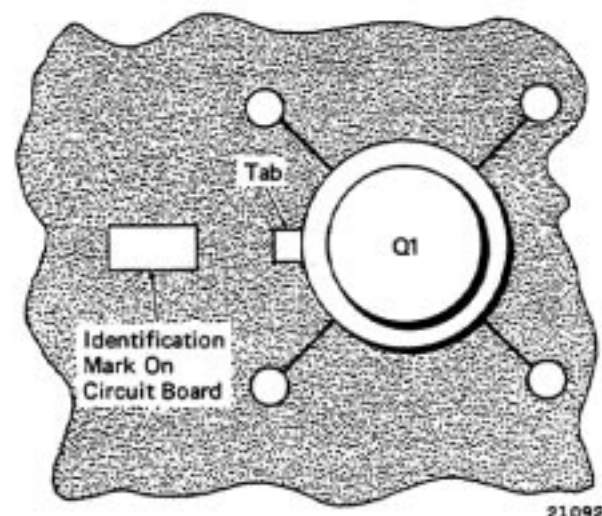

Fig. 26 - Mounting Q1
3. Insert leads through holes in circuit board. Refer to Fig. 26. Match small tab on Q1 with identification mark on printed circuit board.
5. Solder leads to their proper location, Fig. 26.